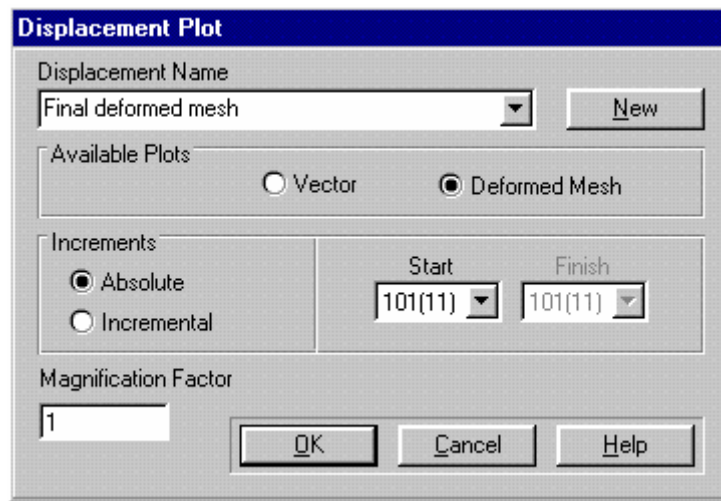

Figure 6-36: Setting Up A Displaced Mesh Plot
- Step 5** Set a Magnification Factor of 1 (the default). The Displacement Plot dialogue box should now look similar to Figure 6-36.